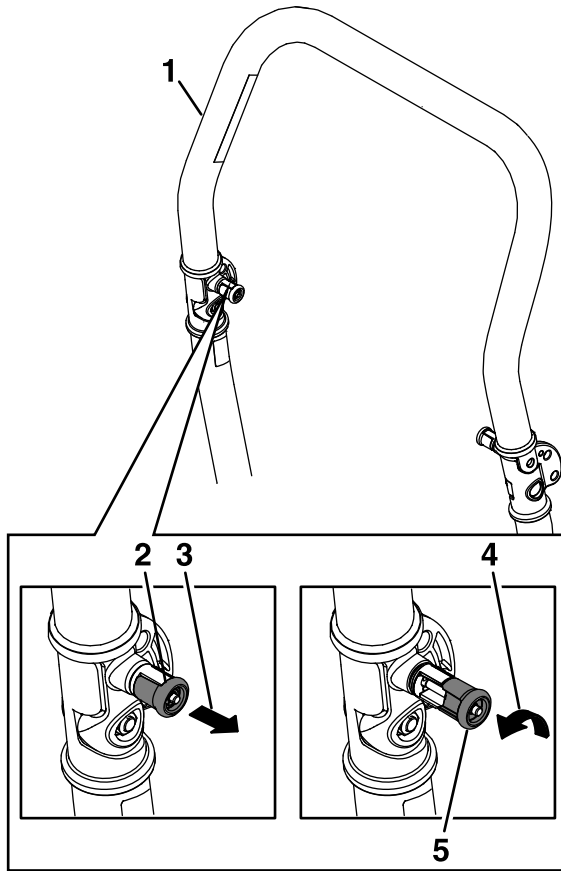

Figure 1
1. Pull the knob and rotate 90° to hold in the unlatched position (see Figure 1).
3. To lock the roll bar in the raised, operate position, rotate the knobs 90° so that the tabs interlock partially. Apply forward pressure to the roll bar upper hoop and observe that the knobs return to the completely latched position as shown in Figure 1.